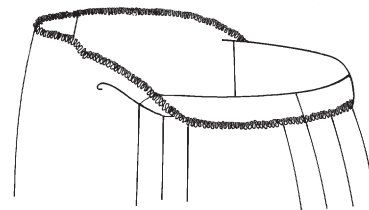

Fig. 12-7
2. Fold the waistline edge of the garment over $1\frac{1}{4}$ inches (3.2 cm), with the wrong sides together, to form a casing. (Fig. 12-7) Press the folded edge.